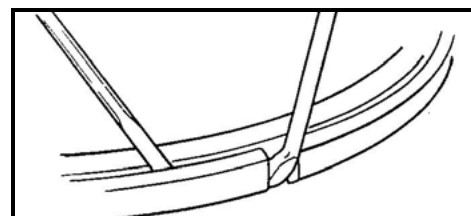

Figure 7
1. Stand inside the tire rim. Remove the lock ring with two pry bars. Start at the split in the ring and then work the tools around the ring. (See Fig. 7)